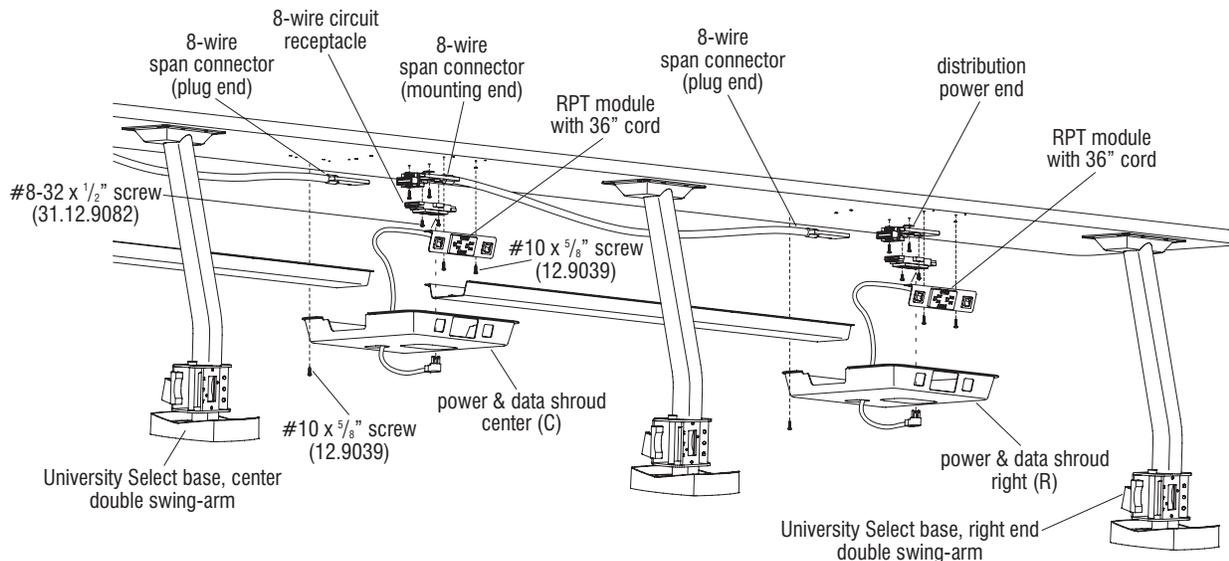

Figure 18 - Left 8-Wire Power Infeed with Single Swing-arm Ends (Single-arm Detail)
- 61. Per the space-planning layout, continue down the line to the right and install the mounting ends of 8-wire span connectors to the underside of the worksurfaces using two #10 x 5/8” screws (torque to 25 in/lbs) as illustrated. At the end of the run of span connectors, a “distribution power end” will be installed in the same manner as the span connectors were (Figure 18). Snap the plug ends of the span connectors into the mounting ends as you go along. Snap the plug end of the final span connector into the distribution end as illustrated (Figures 17 & 18, Detail B, page 15).